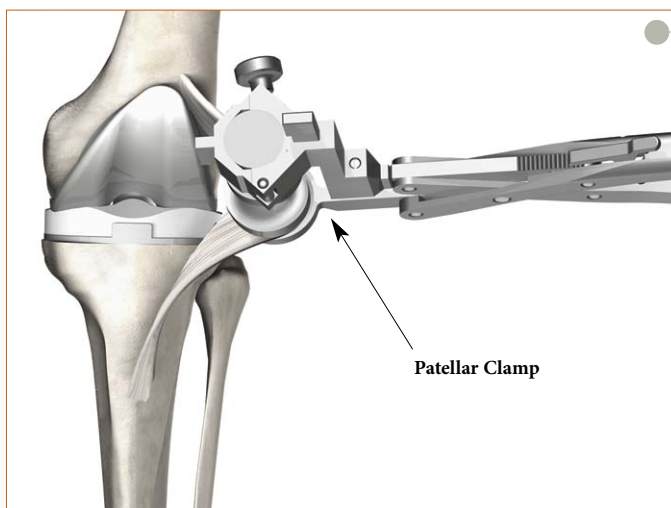

Figure 77
- ▶ The patellar clamp locks in place while the cement hardens (**Figure 77**).